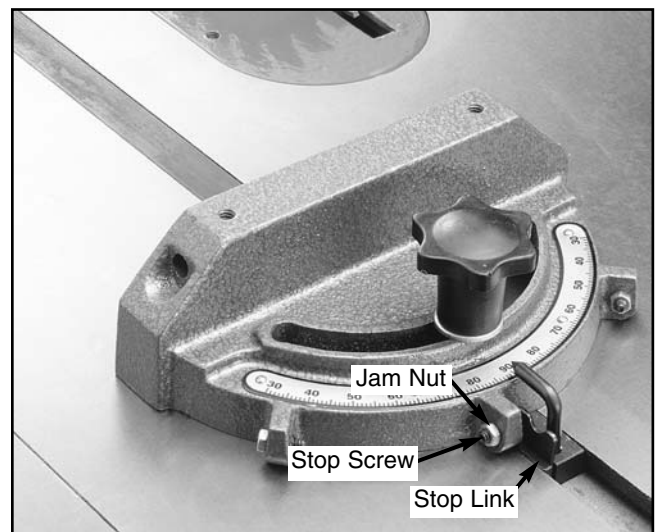

Figure 25.
3. With the stop link in the up position, loosen the jam nut and adjust the stop screw until it is seated against the stop link. **Figure 25.**